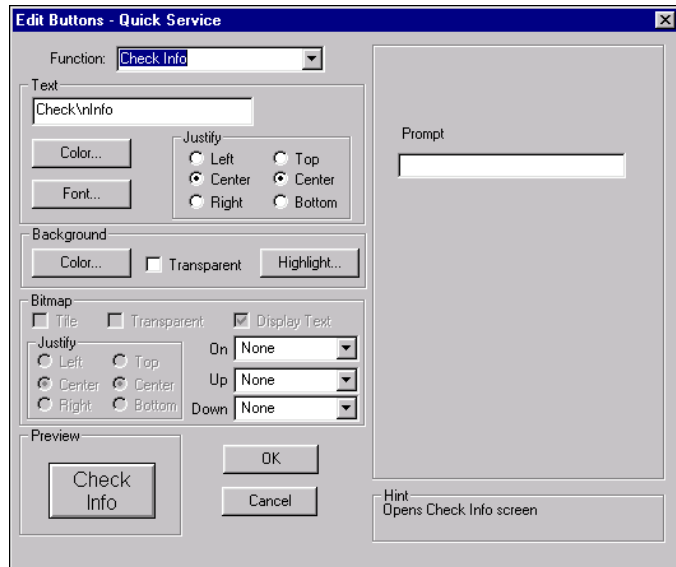

Figure 5-78 Check Info Button Function
1. Select **Check Info** from the **Function** drop-down list. An additional option displays, as shown in Figure 5-78: